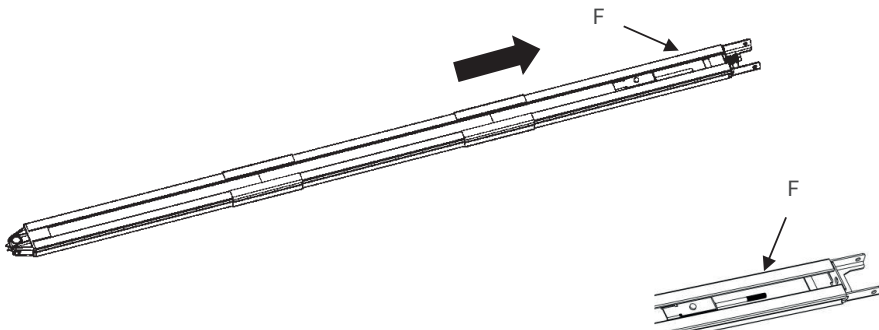

Fig. 6
2. Pull the screw F with the tensioning element to the end of the rail (Fig. 6).